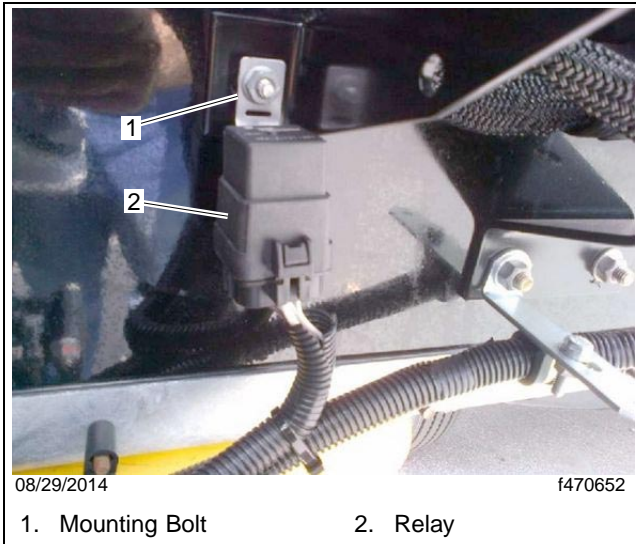
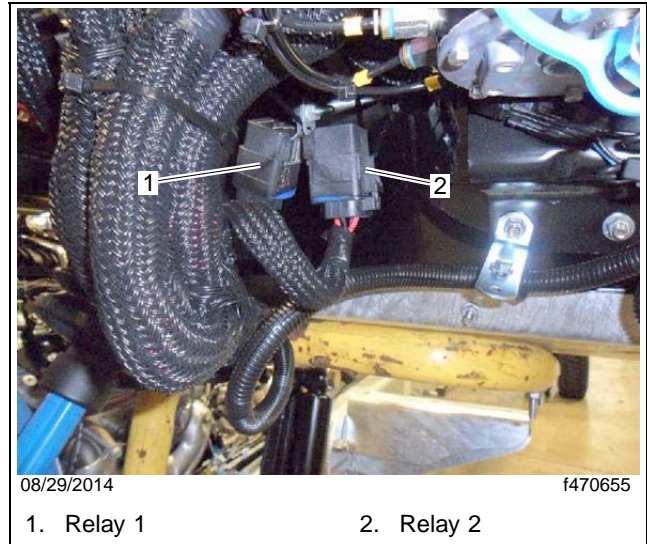

Fig. 13, Mounting the Relay on the PDM Bolt
Fig. 14, Mounting the Relay, Alternate Method
- Using the 1/4-inch flange nut, mount the relay on the protruding bolt of the PDM mounting bracket as shown **Fig. 13**. If another relay is already mounted, mount the starter relay as shown in **Fig. 14**.
6. Using the 1/4-inch flange nut, mount the relay on the protruding bolt of the PDM mounting bracket as shown in **Fig. 13** on page 8. If another relay is already mounted, mount the starter relay as shown in **Fig. 14** on page 8.